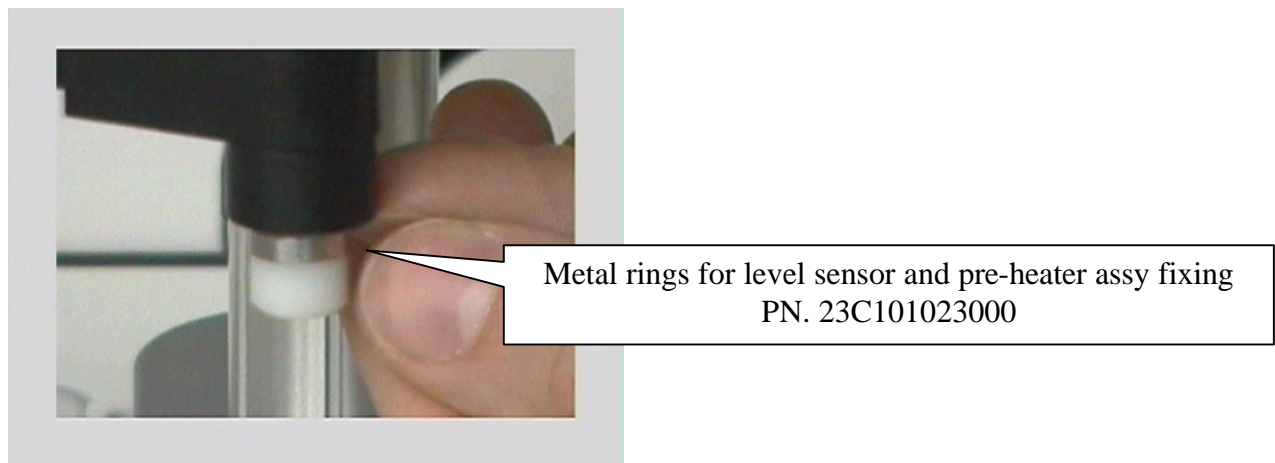
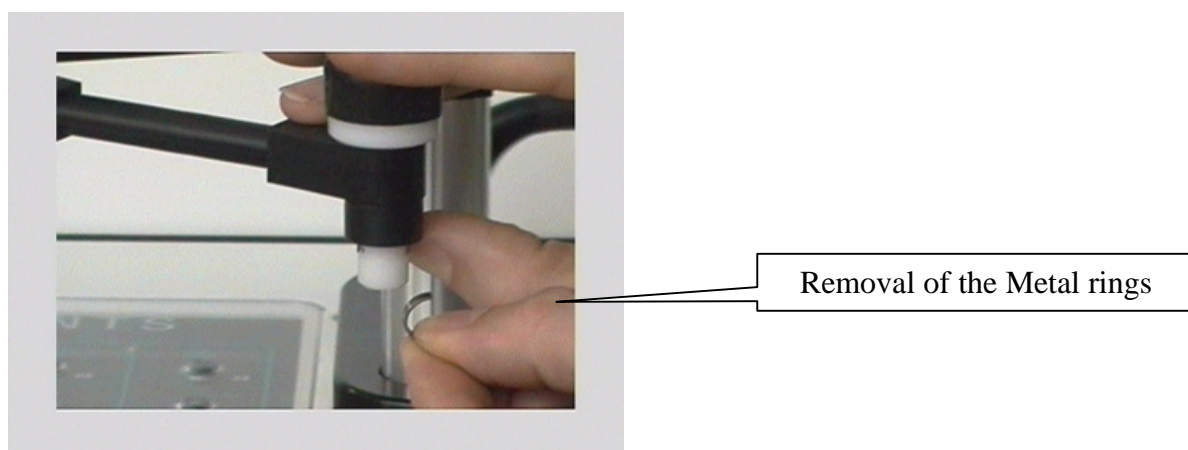

Fig. 4
Fig. 5
8. Lift the teflon washer and expose the half-ring; remove the half-ring (Fig.4) and (Fig.5).